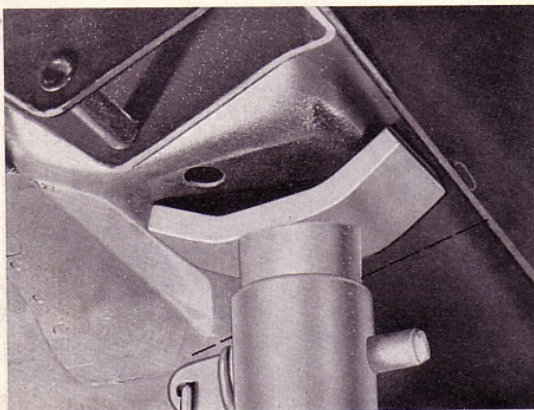

Fig. 27. Location of jack, 144
1. Place blocks in front of the front wheels. Unscrew the rear wheel nuts. Place fixture SVO 2714 on a garage jack and jack up the rear end of the vehicle. Compare Fig. 55. Place blocks in front of the rear jack attachments (see Fig. 27) and lower the jack slightly. Note that the blocks must not be placed further forwards than the dashed line indicated in the figure. Remove the rear wheels.